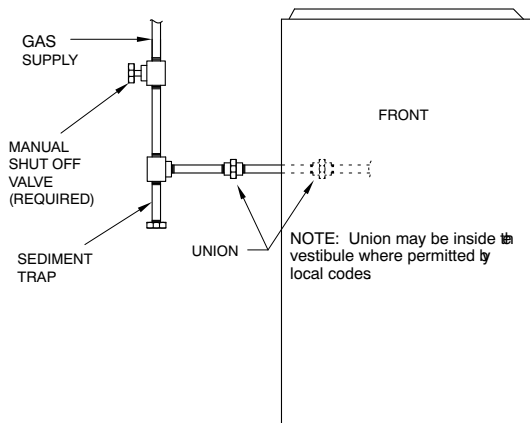

Fig. 31 – Typical Gas Pipe Arrangement A11035
Install a sediment trap externally in the riser leading to furnace as shown in Fig. 31. Connect a capped nipple into lower end of tee. Capped nipple should extend below level of furnace gas controls. Place a ground joint union between furnace gas control valve and exterior manual equipment gas shutoff valve.
5. Fasten the external electrical box to the furnace casing using two (2) sheet metal screws.
11. Connect field power and neutral leads to furnace power leads inside the external electrical box as shown in Fig. 31.